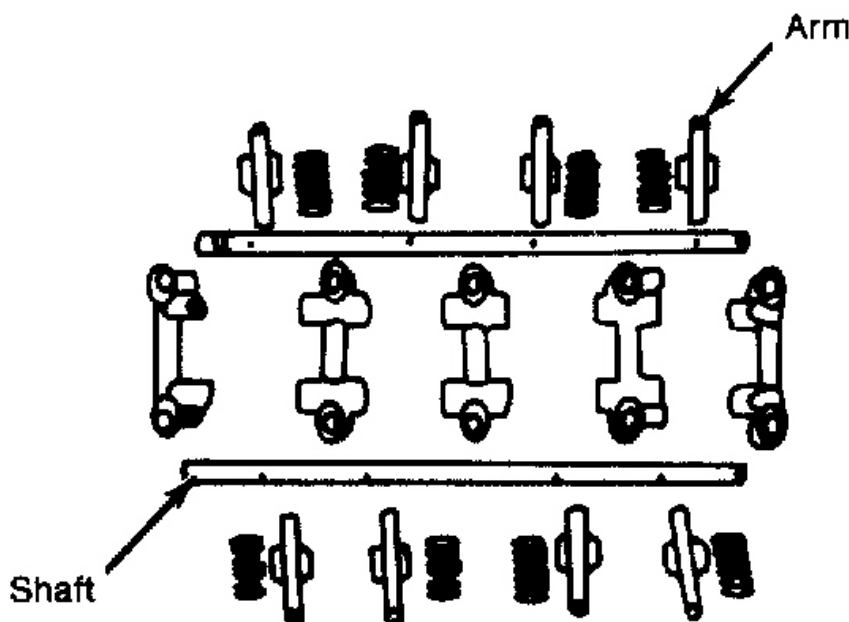

Fig. 6: Disassembled View of Rocker Arm Assembly
2. If clearance exceeds maximum limit, replace rocker arms and/or shafts. Reassemble in reverse of disassembly. Note that rocker arms are identical. See **Fig. 6** .